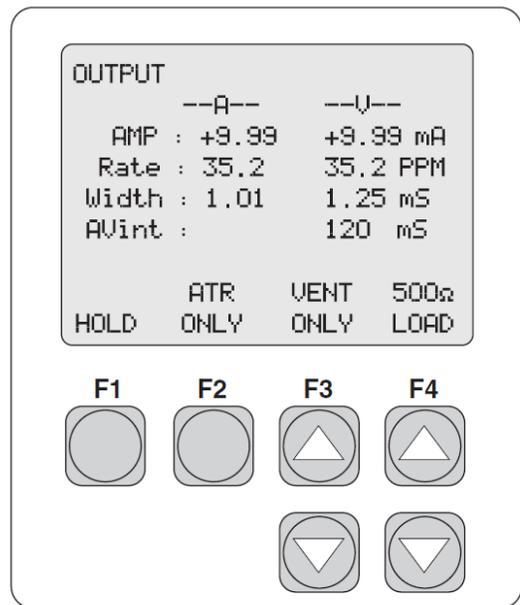

Fig 5
- Depress “F2” (Atr Only) to test. Figure 5
- The analyzer will perform a brief calculation, and then it will begin to display the pacer’s (5391) set RATE along with values for “Volts”(Output), ”Rate”(ppm), “Width” (Pulse width) . Figure 5.